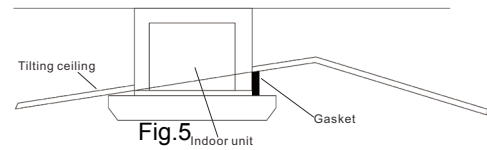

Fig.5
- If this unit body is installed on a tilting ceiling, a gasket should be installed between the ceiling and the air outlet panel, in order to ensure that this unit body is installed on a level surface. As shown in fig.5